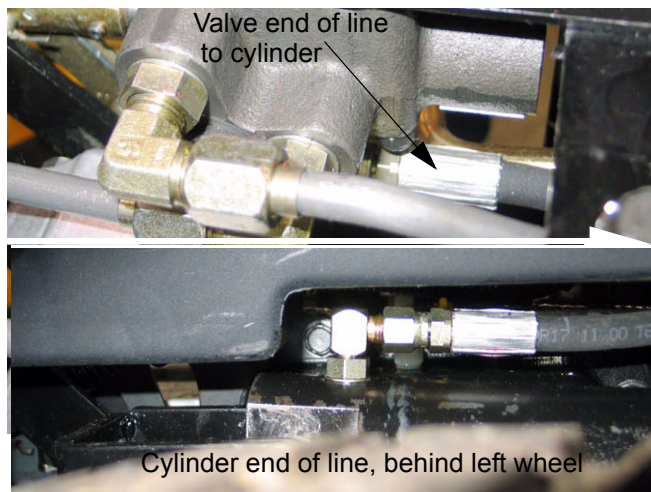

Figure 8.3
- 8.3. The lift cylinder and the hydraulic hose that connects it to the control valve are visible beneath the left fender. See Figure 8.3.